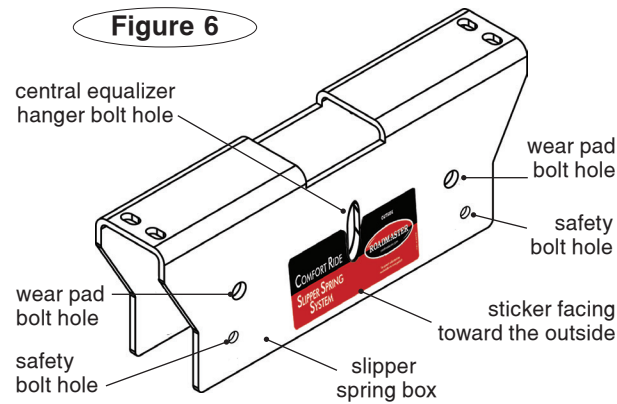

Figure 6
**b.** With the sticker (Figure 6) facing the outside of the trailer, slide the slipper spring box up and over the equalizer hanger bracket. Align the central slotted hole on the slipper spring box to the hole in the equalizer hanger bracket.
**12.** Installing the new slipper springs (refer to Figure 6 for the bolt locations in steps 12 and 13):
- b. Insert a 7/16" bolt through the safety bolt hole (refer to Figure 6), a 2½" pipe spacer, and then through the other side of the slipper spring box.